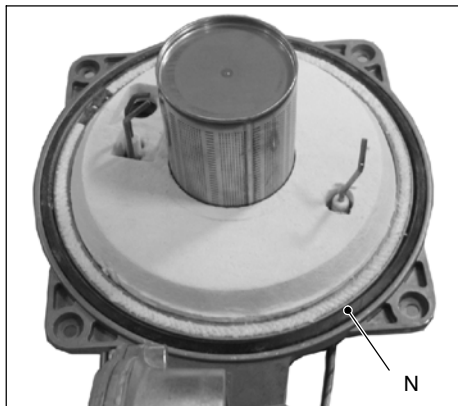

Fig. 9.8
**The siliconic gasket N (Fig. 9.8) must be replaced if damaged or anyway every 2 years.**